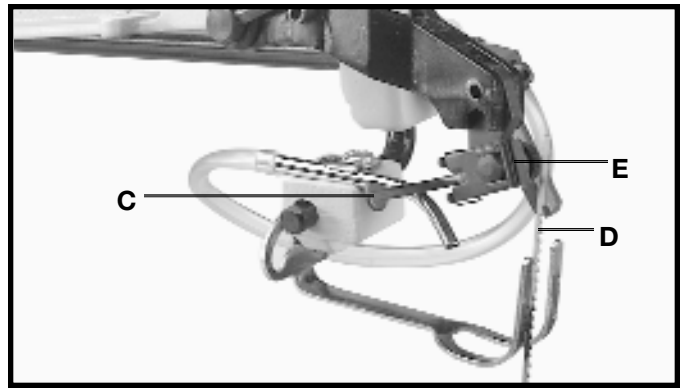

Fig. 23
3. Push chuck locking lever (C) Fig. 23, to the rear as shown. This will release the blade (D) from the upper chuck (E).
8. Push chuck locking lever (C) Fig. 23, to the forward position, to lock the blade in the upper blade holder assembly.
1. Move the chuck locking lever (C) Fig. 23, to the rear (open) position, as shown.